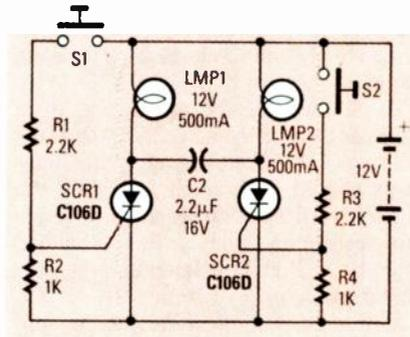

FIG. 5—A BISTABLE LATCH (or flip-flop) can be built from two SCR's.
**FIG. 5—SLIGHT GAIN DIFFERENCES** between the inverting and the non-inverting inputs produce an erroneous output voltage. The ratio of the output voltage to the common-mode input voltage is the common-mode rejection ratio.
Common mode refers to the fact that both inputs are referenced to the same identical source. One way to produce a common-mode condition is to tie the two inputs together and bias them above ground, as illustrated in Fig. 5. The output voltage of that circuit is the common-mode error voltage.
Figure 5 shows how the previous circuit can be modified so that it acts as a bistable latch (flip-flop) that drives two independent lamps. To understand how it works, assume first that SCR1 is on and SCR2 is off, so that C1 is fully charged, with its LMP2 end positive. The state of the circuit can be changed by pressing S2. As SCR2 turns on, it turns SCR1 off capacitively via its anode. Capacitor C1 then recharges in the opposite manner (i. e., the left end is now positive). The state of the circuit can be changed again by pressing S1, thus driving SCR1 on by way of its gate, and driving SCR2 off capacitively via its anode.